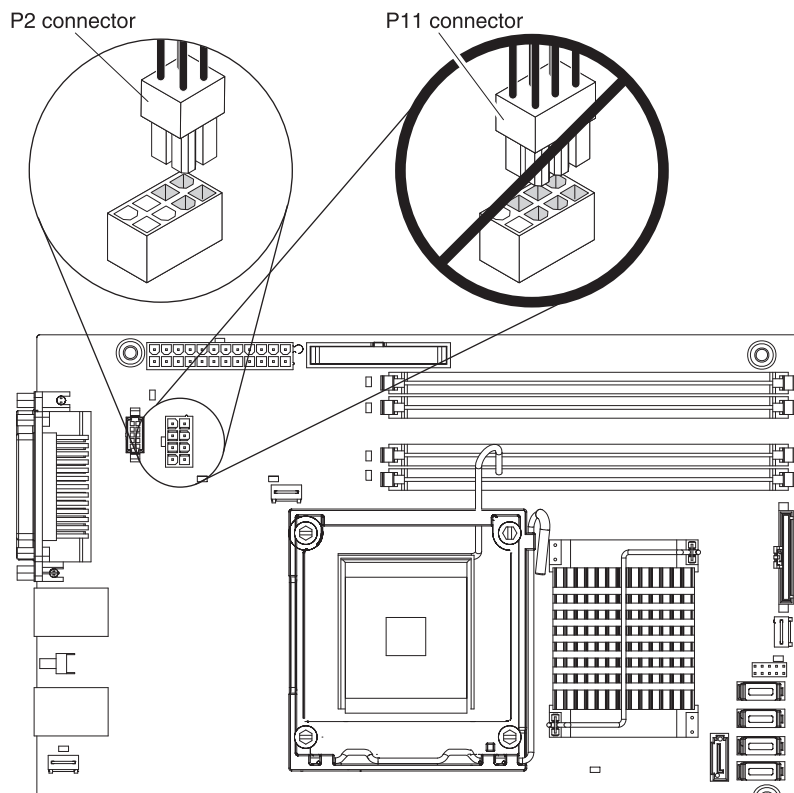

Figure 1. Connectors P2 and P11
3. Power supply connector P2 supports the microprocessor voltage regulator module. Connect power supply connector P2 to the microprocessor power connector on the system board, see Figure 1 on page 108.